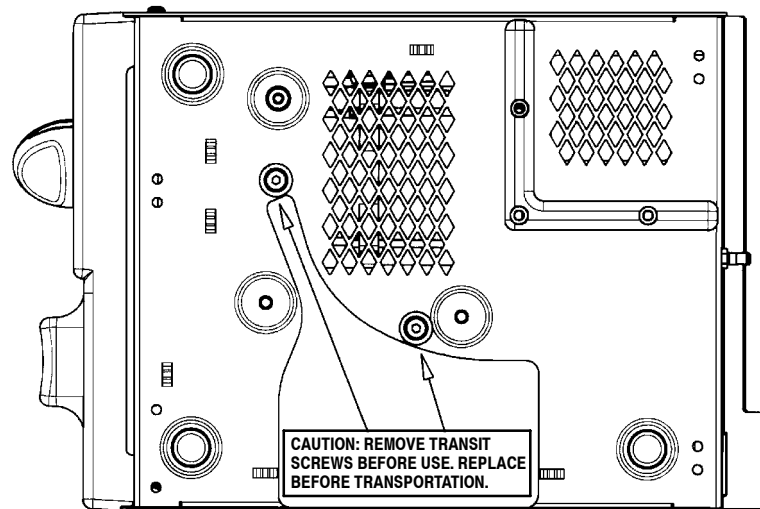

FIGURE 2-1
- The unit is fitted with two M6 transit screws to protect the pump during transportation. Before use, remove both screws with fibre washers using the 4mm A/F Allen key provided (Figure 2-1), then remove the label from the top of the unit. Store these items safely as they must be refitted when transporting the unit.